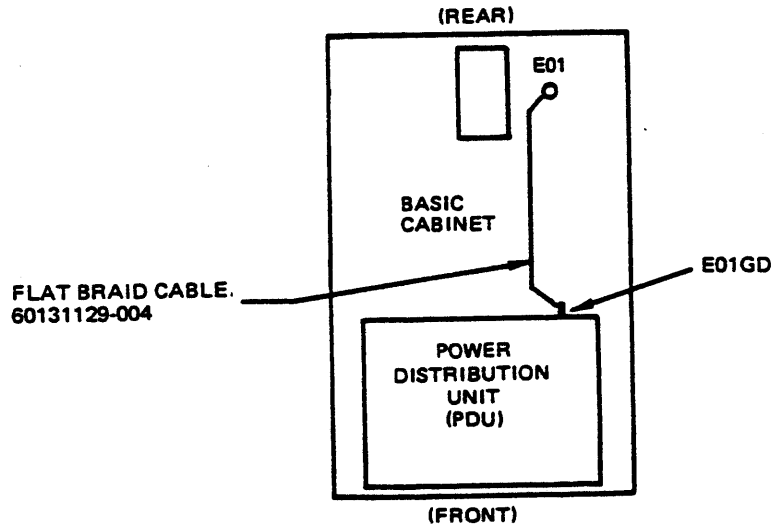

Figure 3-7 Grounding Within One-Cabinet System (Top View)
6. Ensure that the PDU's ground connection, E01GD, is connected via a braided cable to ground stud E01 on the cabinet floor, as shown in Figure 3-7.